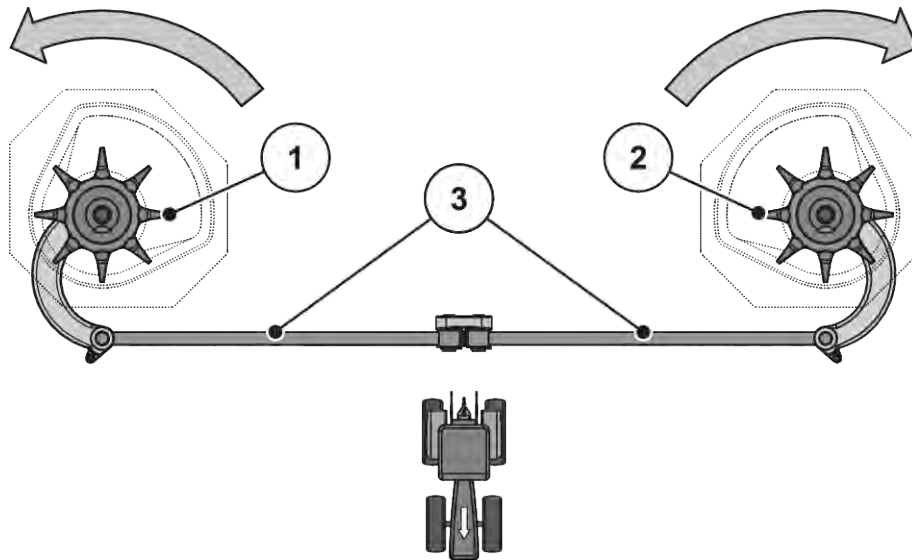

Fig. 54: Checking the agitator drive
- Manually turn the agitator head **into the rotational direction of the spreading disc**. See Fig. 54 Checking the agitator drive.
- Turn the agitator head manually or with the help of an oil filter belt forcefully **against the rotational direction of the spreading disc**. See Fig. 54 Checking the agitator drive